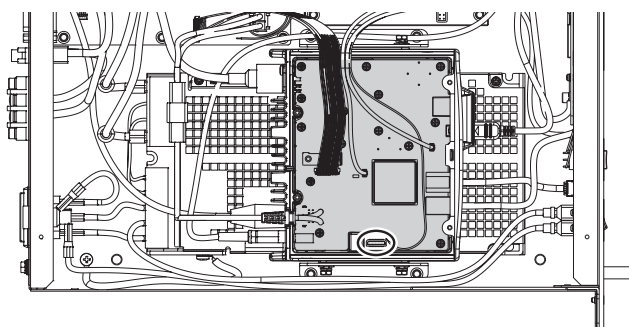

Figure 3
5. Refer to Figure 3 for the mounting location for the FVS-2.